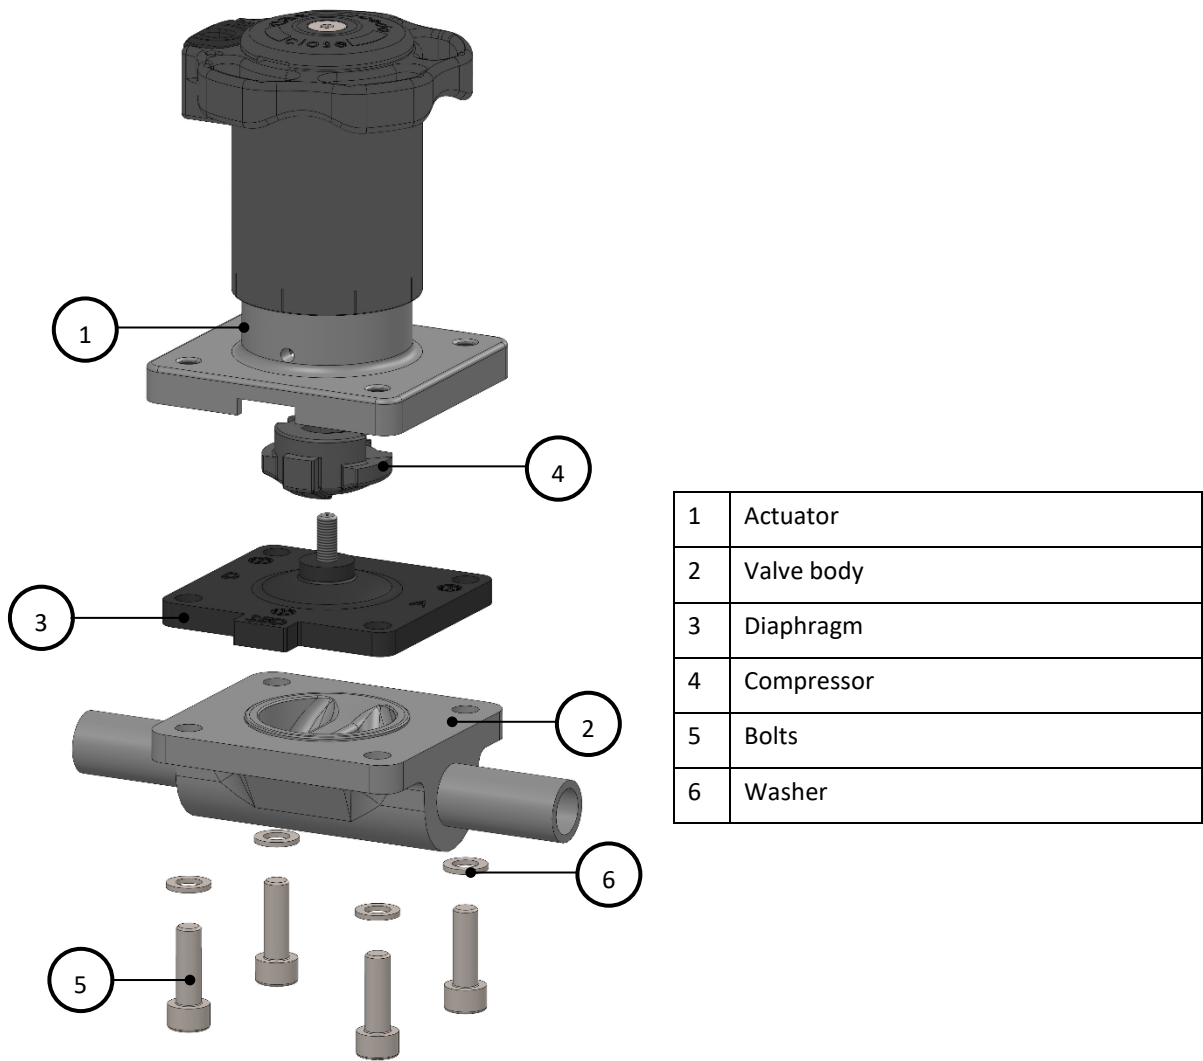

Figure 2: Exploded view of complete valve
- Position the actuator (pos. 1) correctly on the valve body (pos. 2), see Fig. 2. Make sure that the alignment of the diaphragm web and the valve body web match!
- Tighten the screws (pos. 5) or nuts crosswise with the appropriate torque, see table below.